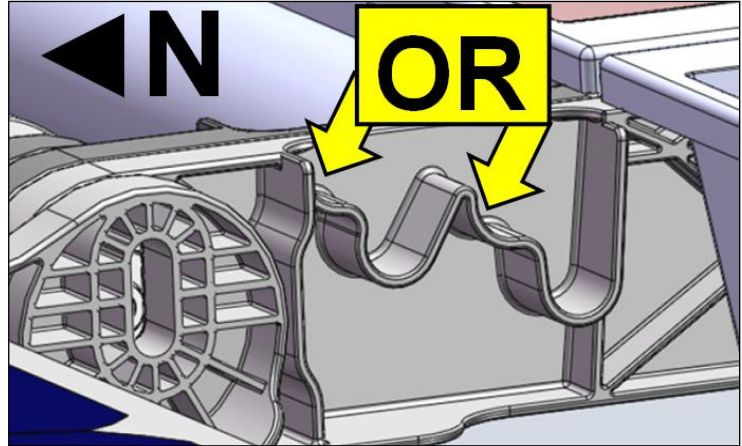

Fig. 66
- Using whichever slot pair is correct for the given module, fit the deflector tabs evenly into the upper (shallower) of the slot pair (Fig. 66).